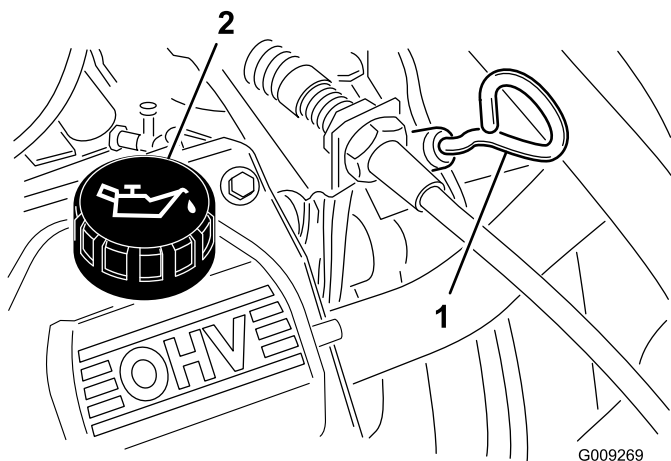

Figure 14
2. Remove dipstick (Figure 14) and wipe it with a clean rag. Insert dipstick into tube and make sure it is seated fully. Remove dipstick and check level of oil. If oil level is low, remove filler cap (Figure 14) and add enough oil to raise level to FULL mark on dipstick.